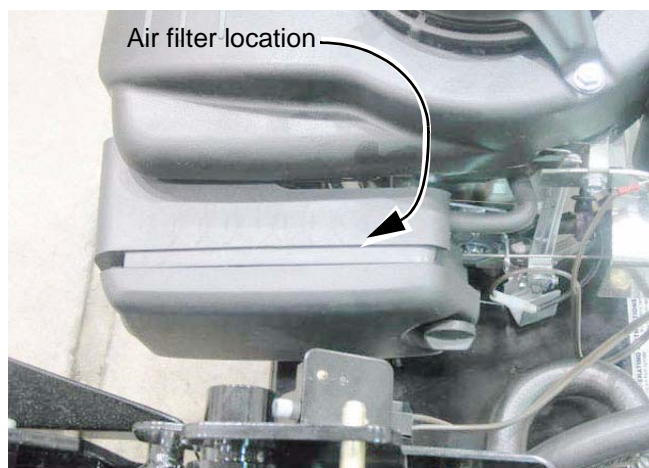

Figure 2.3
3. The filter should be checked on a regular basis. Generally several times in a season, or when a change in engine performance becomes noticeable. See Figure 2.3.